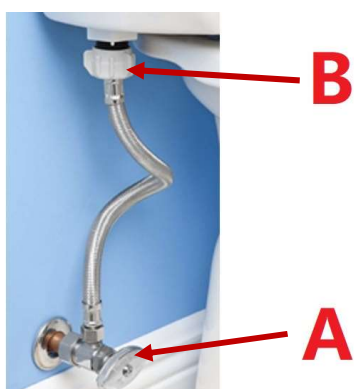
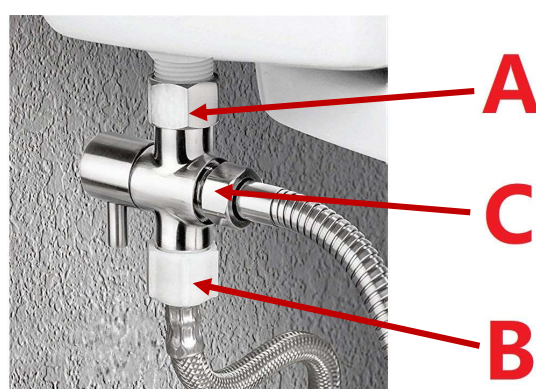

Figure 1
Figure 2
Step 1: Turn off the water supply valve at the wall (**Figure 1-A**);
Step 3: Disconnect flexible water supply line from under toilet tank (**Figure 1-B**). Check that the Rubber Washer is lying Flat inside the Hexagonal Nut of T-valve adapter. Connect the Hexagonal Nut of T-valve adapter, without cross-threading, to the toilet tank where the water supply line was just removed (**Figure 2-A**).
Step 4: Connect the nut of water supply line, without cross-threading, into the bottom of T-valve adapter (**Figure 2-B**).
Step 5: Unscrew the blue caps off each end of Sprayer Hose. Make sure there is a flat rubber washer inside each end of hose. Screw shorter head end (Hexagonal Nut) of hose to the T-valve adapter (**Figure 2-C**) and screw longer head end (Cone Nut) of hose to the SANICARE Handheld Sprayer. Hand tightening is enough.